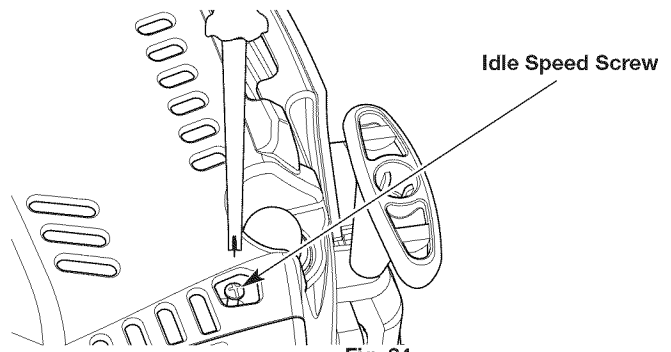

Fig. 24
2. Release the throttle control and let the engine idle. If the engine stops, use a small Phillips screwdriver to turn the idle speed screw clockwise, 1/8 of a turn at a time (as needed) until the engine idles smoothly (Fig. 24).
3. If the engine is idling too quickly, turn the idle speed screw counterclockwise, 1/8 of a turn at a time (as needed) to reduce the idle speed (Fig. 24).